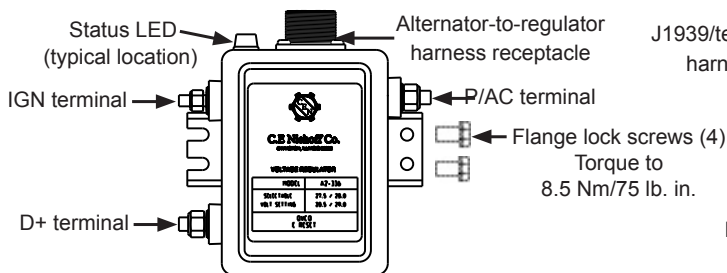

Figure 5: Conventional Regulator Connections
3. Plug alternator-to-regulator into receptacle on regulator. See Figures 5 and 6 for receptacle location.
4. Connect regulator terminals as required by vehicle. Refer to Figures 5 and 6 below: